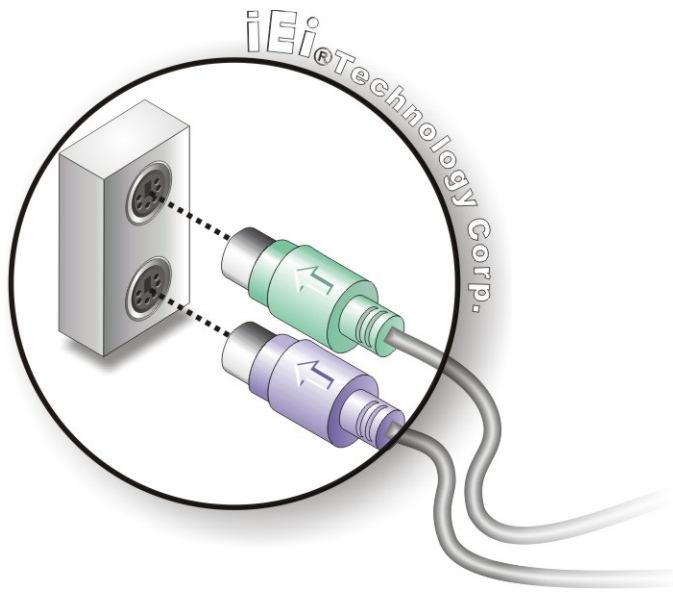

Figure 5-20: PS/2 Keyboard/Mouse Connector
Step 2: **Insert the keyboard/mouse connector.** Insert a PS/2 keyboard or mouse connector into the appropriate PS/2 connector on the external peripheral interface connector. See **Figure 5-20**.